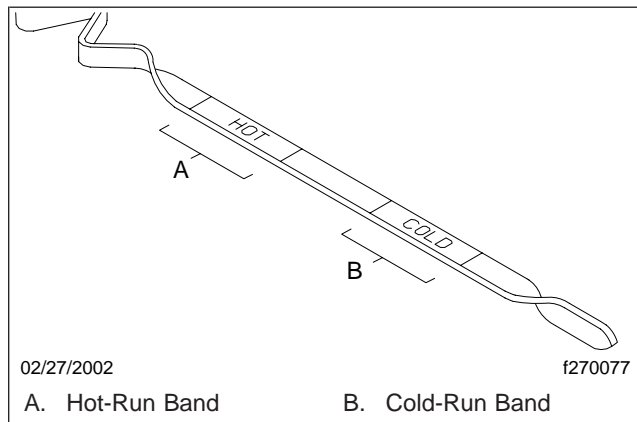

Fig. 12.4, Automatic Transmission Dipstick Markings
- Operate the transmission in a Drive (D) range until normal operating temperature, 160 to 200°F (71 to 93°C), is reached.
- With the parking brake applied, shift to Neutral (N). Let the engine run at idle.
- Wipe the dipstick clean and check the fluid level. A safe operating level is any level within the HOT-run (upper) band on the dipstick. See Fig. 12.4.